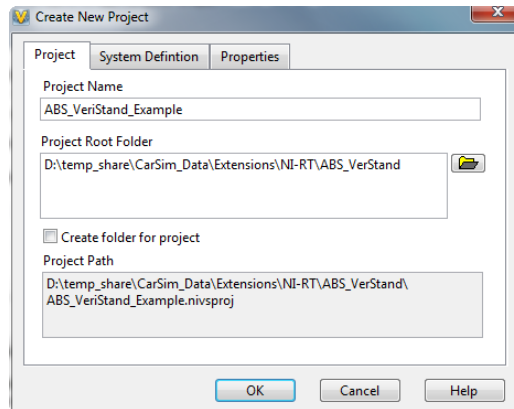

Figure 21. VeriStand New Project Creation Window.
2. Click **New NI VeriStand Project**. This will open the Create New Project window (Figure 21).